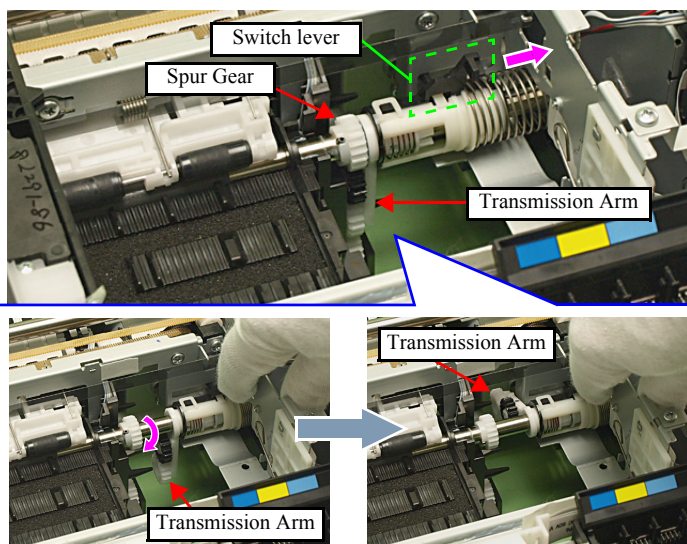

Figure 8-25. Installing the Ink System (2)
6. Push the switch lever in the direction of the arrow and turn the spur gear (see Fig. 8-25), then align the Transmission Arm to the position A (Ink System operation point) shown in Fig. 8-26.